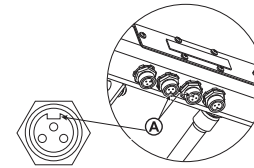

Figure 11. Female Connector
- Locate the slot or key (A) on each female connector as shown in Figure 11.